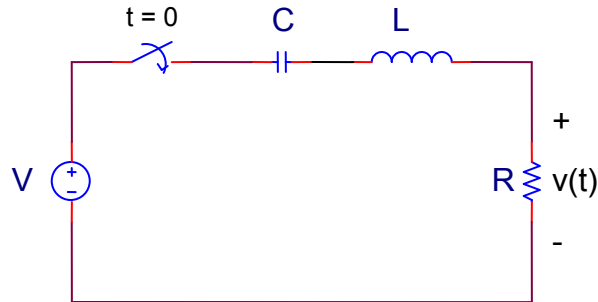
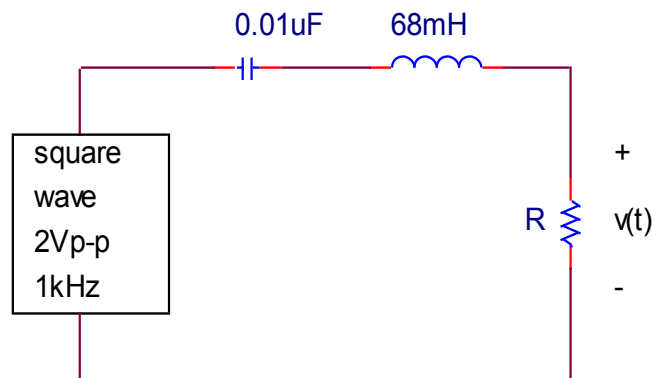

Figure 8.2
Figure 8.4
1. For the circuit in Figure 8.2 , write a differential equation for $v(t)$ (in terms of R , L , and C). If $L = 68\text{mH}$ and $C = 0.01\mu\text{F}$, what range of values for R correspond to over-, under-, and critically damped cases?
1. The circuit of Figure 8.4 can be used to observe the voltage, $v(t)$ for the circuit of Figure 8.2. As in the previous experiment, the square wave generator is used in place of the dc source in series with a switch.
d. Using PSPICE plot $v(t)$ versus t for each of the three circuits, compare them to your experimental results. Recall that the circuit you are analyzing is equivalent to that shown in Figure 8.2 (zero initial conditions). You do not need to use the pulse input for PSPICE.